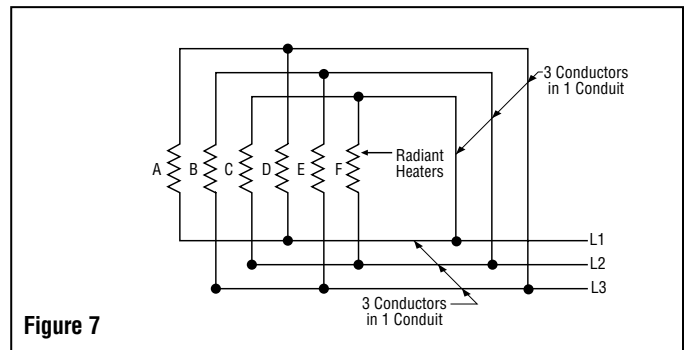

Figure 7
11. **DELTA CONNECTIONS** – When heaters occur in multiples of three, they may be connected to, and balanced across, three-phase lines. The most commonly used connection is the delta connection illustrated in Figure 7.